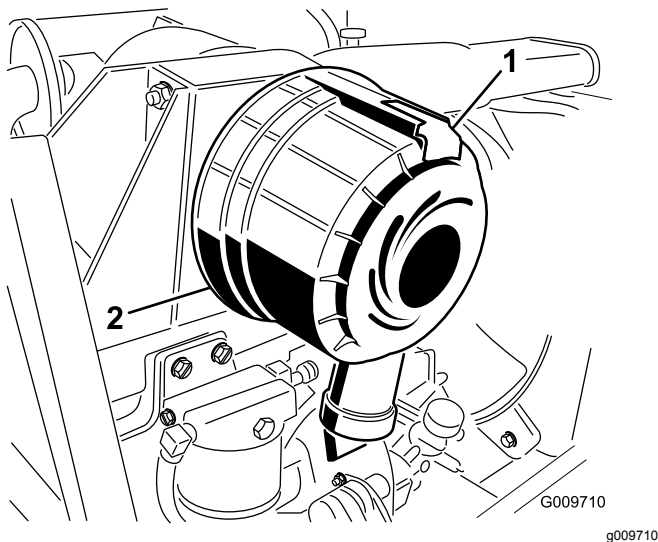

Figure 33
1. Pull the latch outward and rotate the air-cleaner cover counterclockwise (Figure 33).